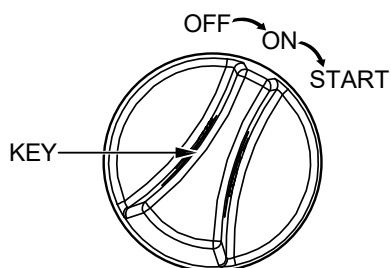
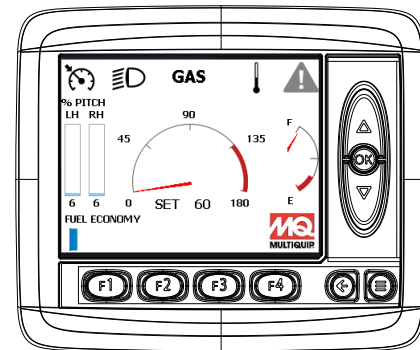

Figure 33. Ignition Key Switch
Figure 34. Digital Display (Menu Screen)
2. Insert the **ignition key** into the ignition switch (Figure 33).
3. Turn the ignition key clockwise to the **ON** position (Figure 33). The **digital display** will turn on and the menu screen (Figure 34) will appear on the display.